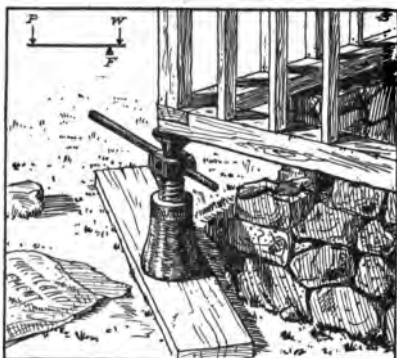

FIG. 231. A combination of the lever and the inclined plane.
**The screw.** The screw is a combination of the lever and the inclined plane. In the jackscrew (Fig. 231), the handle by which the screw is turned is the lever, and the threads of the screw are the inclined plane which the weight